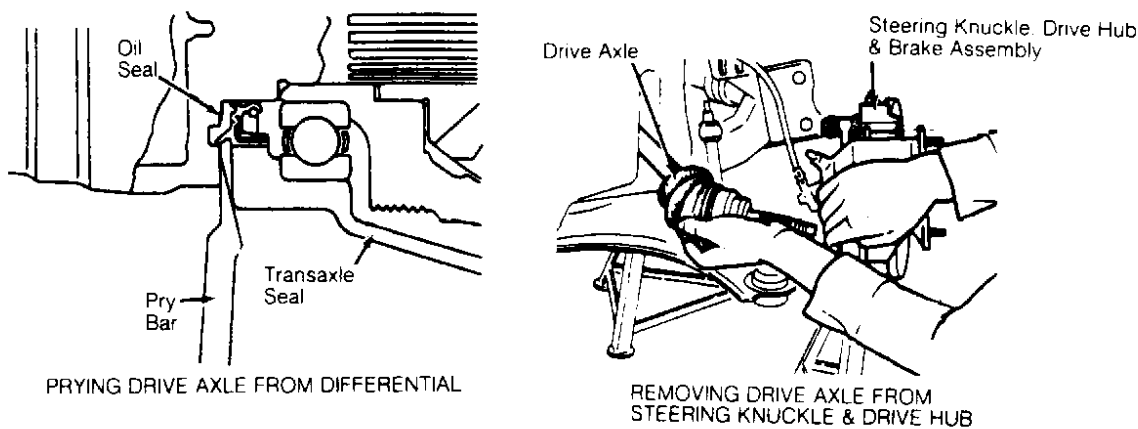

Fig. 1: Removing & Installing Axle Shafts
2. On Capri turbo, remove bolts securing intermediate shaft bearing bracket to engine. On all models, slowly pry axle shaft from transaxle using a flat-tip screwdriver or pry bar. Axle is held into transaxle by a circlip fitted to the end of the axle. Remove axle shaft from wheel hub. If difficult to remove, use axle puller to remove axle from drive hub. Remove axle shaft from transaxle. Plug transaxle openings with Plugs (T87C-7025-C). Remove axle shaft assembly from vehicle. See Fig. 1 .